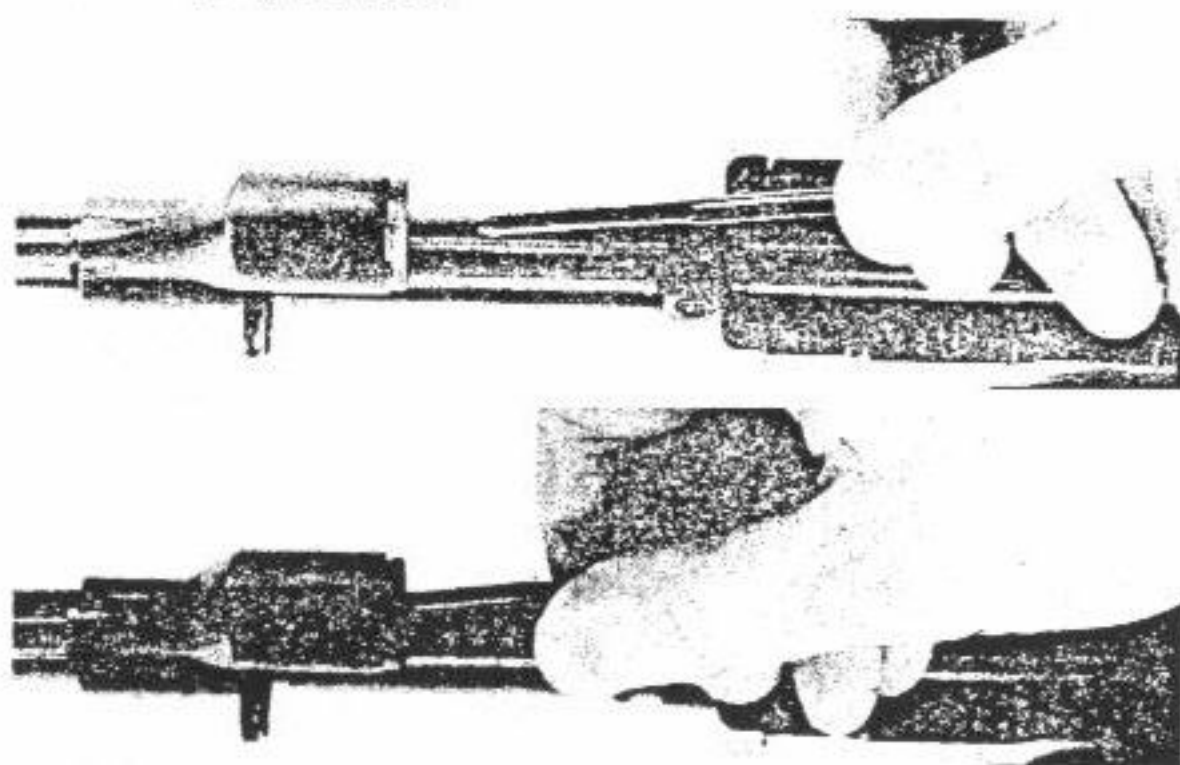

Figure 20
1. Insert the gas port reamer into the gas port of the AKS. (See figure 20.) Turn clockwise until fouling is removed.